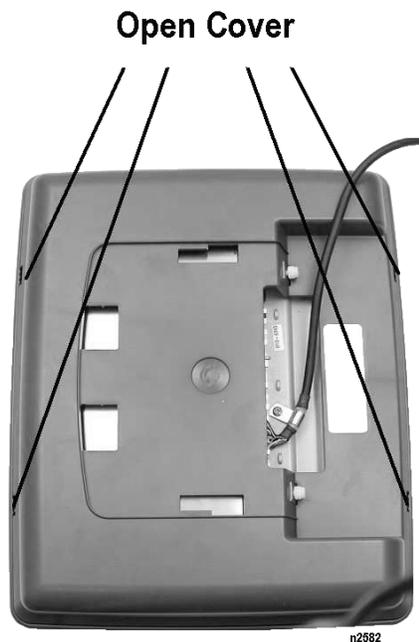

Figure 4-1: Removing the LCD/Touchscreen Head Cover
2. Refer to Figure 4-1 and with a small flat bladed screwdriver, gently pry the rear cover open at the locations indicated.